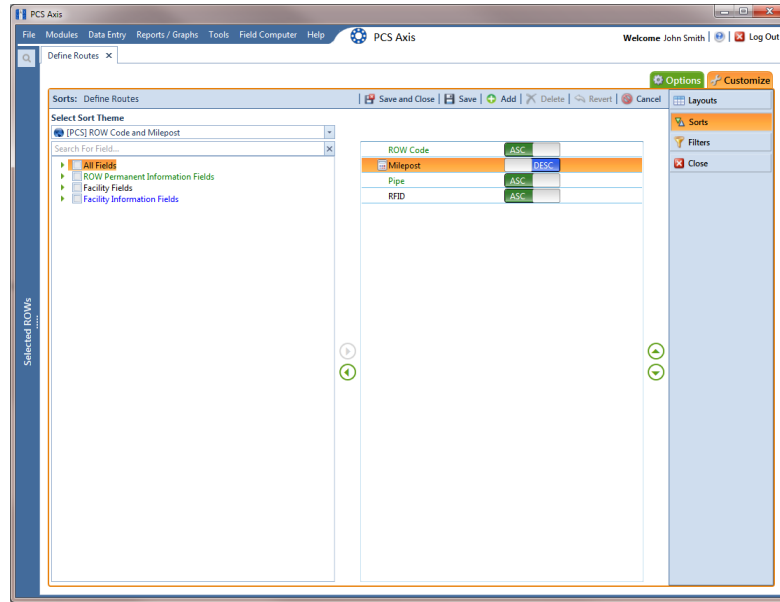

Figure 8-58. Sorts
- 3 Click the **Customize** tab , then the **Sorts** button  to open the *Sorts* page (Figure 8-58, page 432).